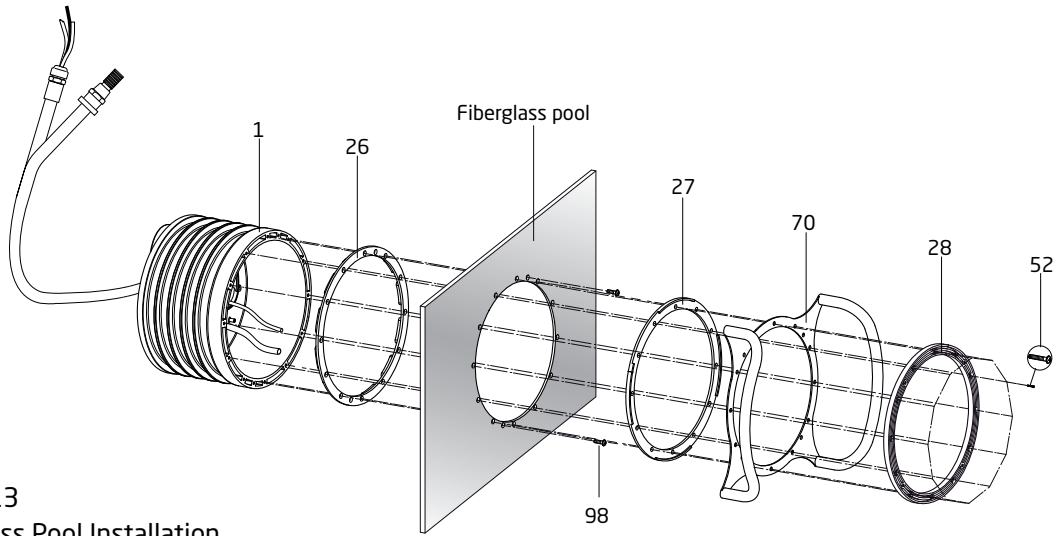

Figure 13
5. Align the clamping ring gasket (part #27) on the inside of the pool wall (or on liner) as shown in Figures 13 & 14. Be sure the ribs on the outer edge of the gasket are facing away from the pool wall and are positioned as shown.